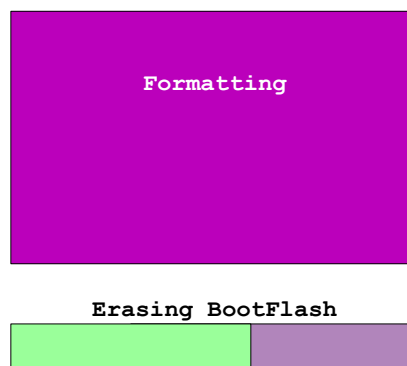
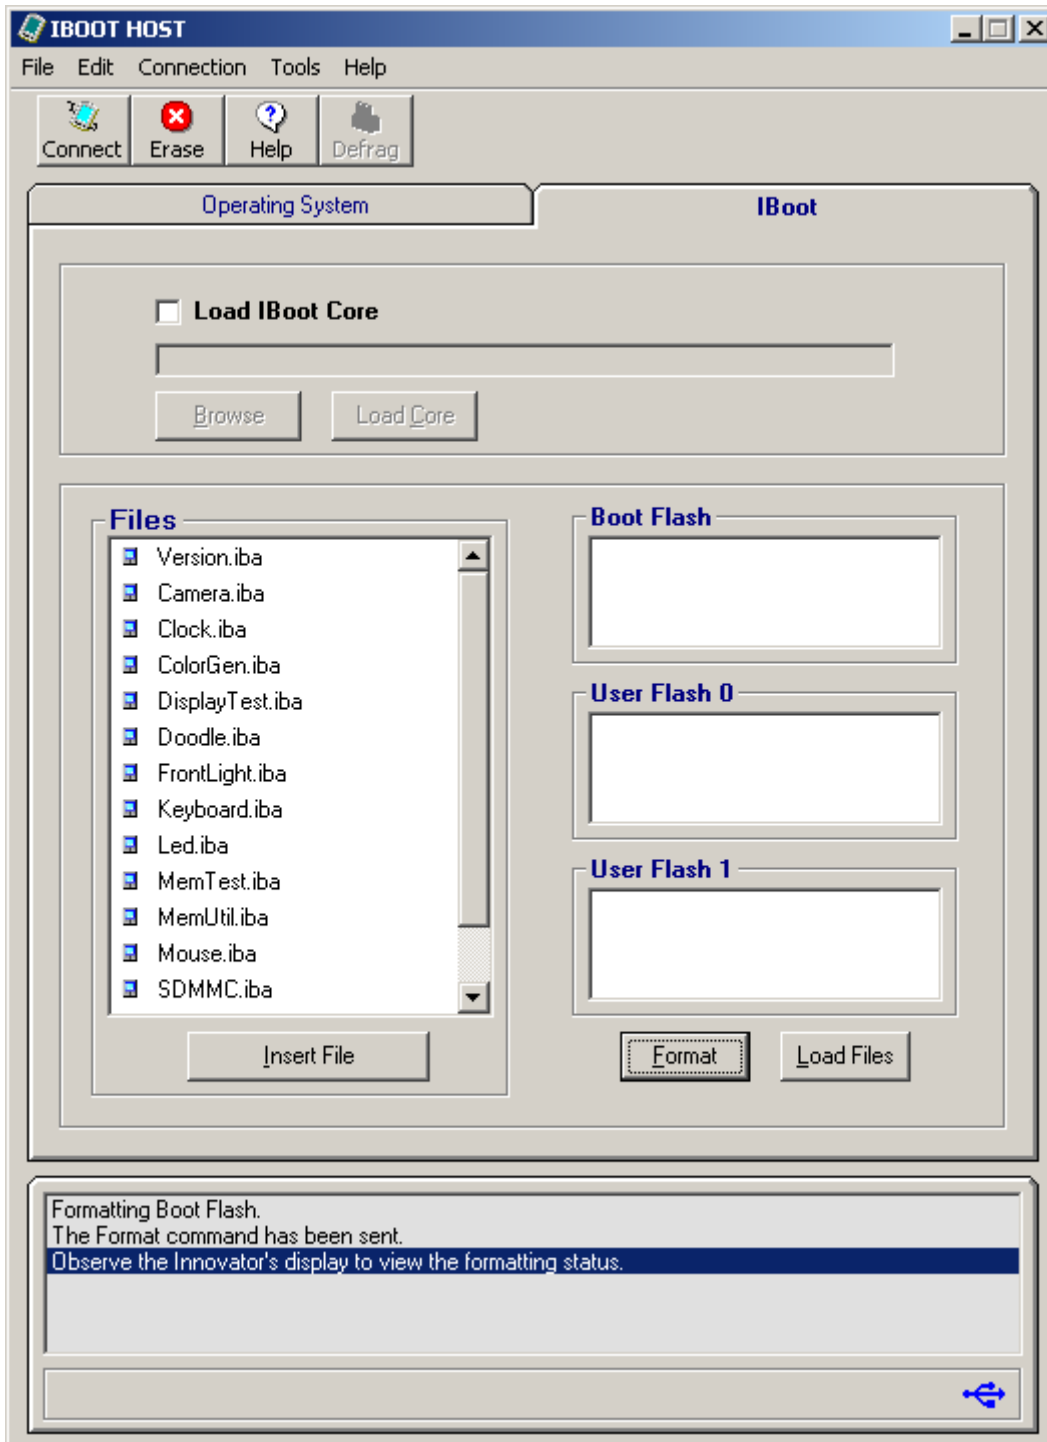

Figure 132. Innovator Module Formatting Status
Figure 133. IBoot Host Command Acknowledgment
Step 12: An acknowledgment to the command sent to the Innovator is displayed in the iBoot Host Status window (see Figure 133). The Innovator Module will display the status of the formatting process taking place on it (Figure 132).